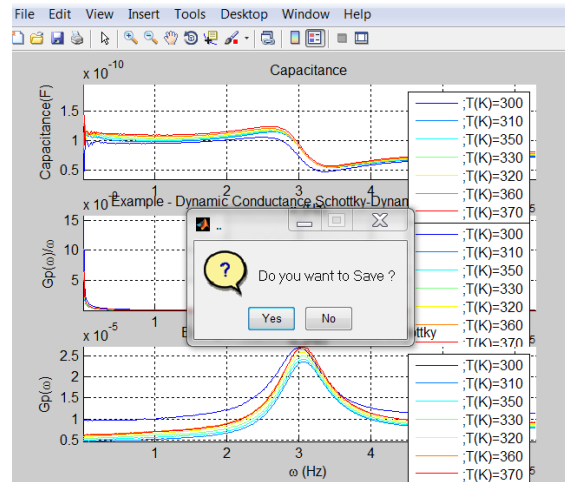
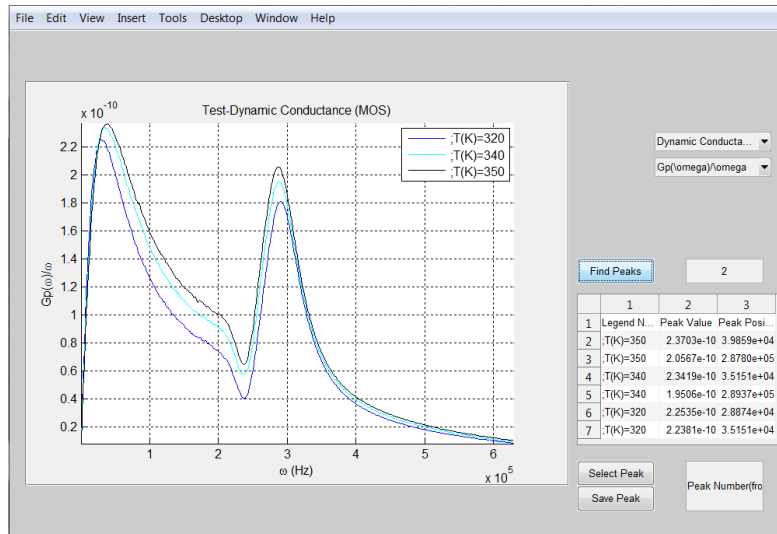
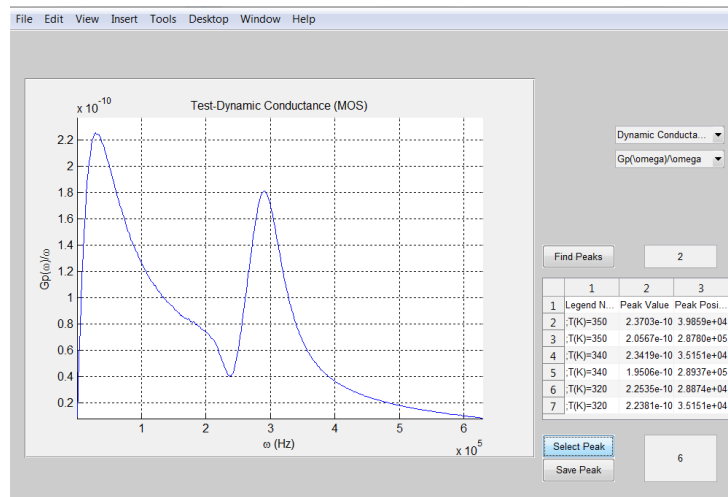

Figure 7
Figure 8
Figure 9
- 13- Once the data has been saved, another pop-up will be shown. It asks if you want to continue. If you press “continue” then another panel will open (Figure 8)
- 17- Press Select peak, all the other curves inside the plot will be hidden and only the chosen one will be shown (Figure 9).
- 18- Go to tools, then select data cursor. Place it in the peak, and then press Save peak. The peak value and peak position at the chosen line will be replaced by the position of the data cursor. Go to tools to zoom in, edit the plot etc. Once all the peaks have been chosen, you can copy the table. I advise to change the panel shown in Figure 7 rather
than the one shown in Figure 8 or Figure 9 since the latter are not permanent and the curve will be reset to the one shown in Figure 7 once the plot being shown in the panel in Figure 8 is changed. Modifying the plot in Figure 7 does it permanently (reselect the plot in panel Figure 8 so the changes made in Figure 7 are visible).